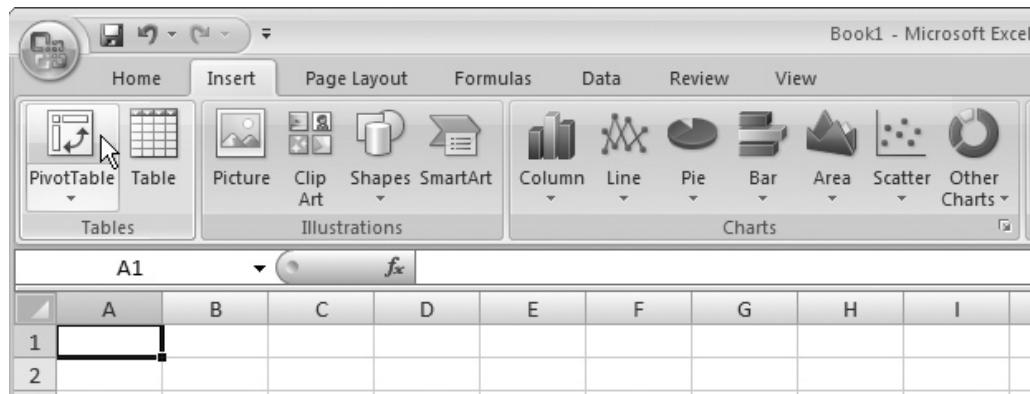

Figure 19-1 Creating a pivot table in Excel
2. Select the Insert ribbon and click the PivotTable icon, as shown in Figure 19-1. The Create PivotTable dialog box appears.